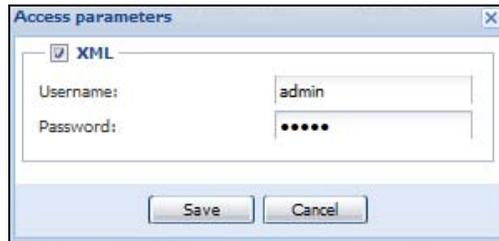
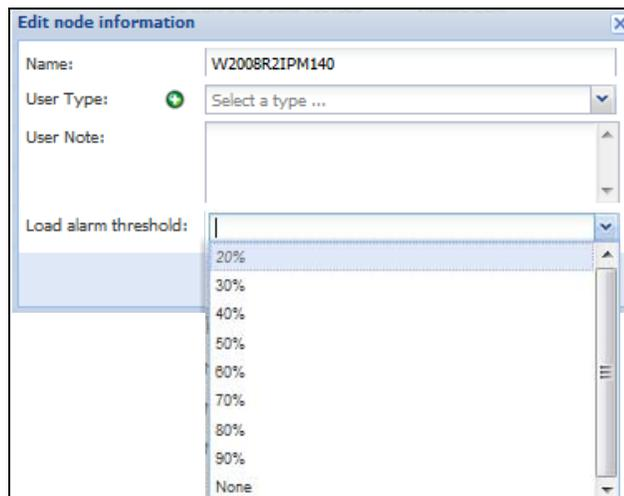

Figure 14. Node Access Parameters Dialog
Figure 15. Edit Node Information Dialog
4. The Edit Node Information dialog or the Access parameters dialog displays (see Figure 14 and Figure 15):